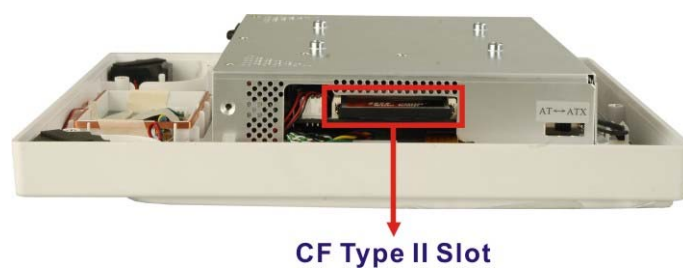

Figure 4-2: CF Socket Location
Step 2: **Locate the CF socket.** The CF socket is located inside the left side panel of the ACT-08A-ATOM. See **Figure 4-2**